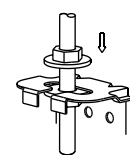

Fig.5-7
- Locate the air conditioner firmly by wrenching the nuts after having adjusted the body's position well. (Refer to Fig. 5-7)